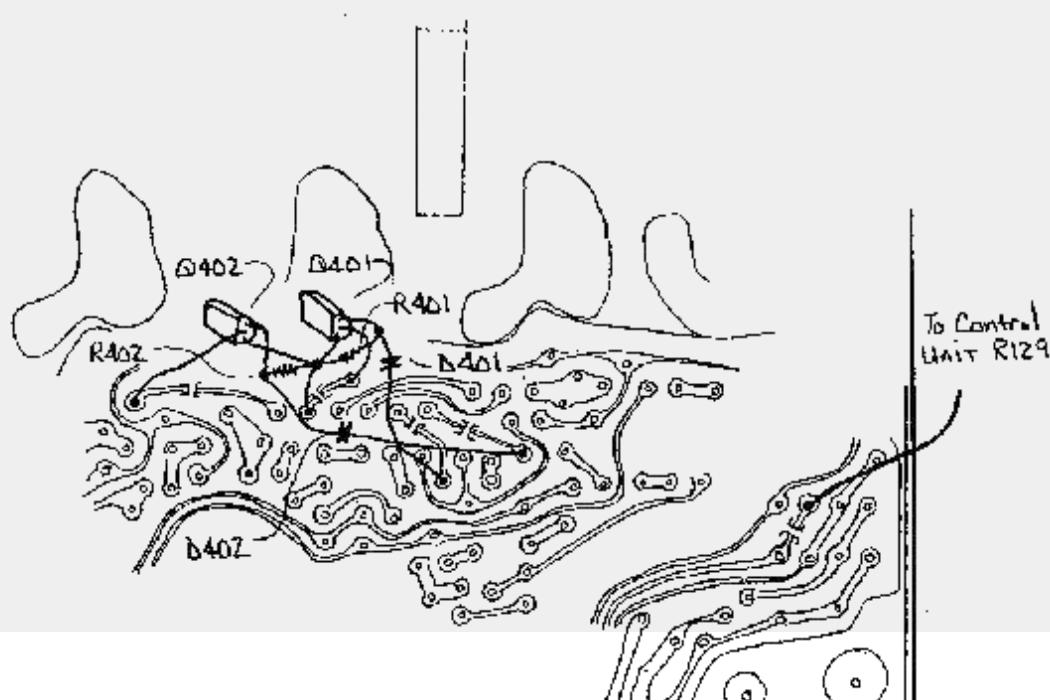
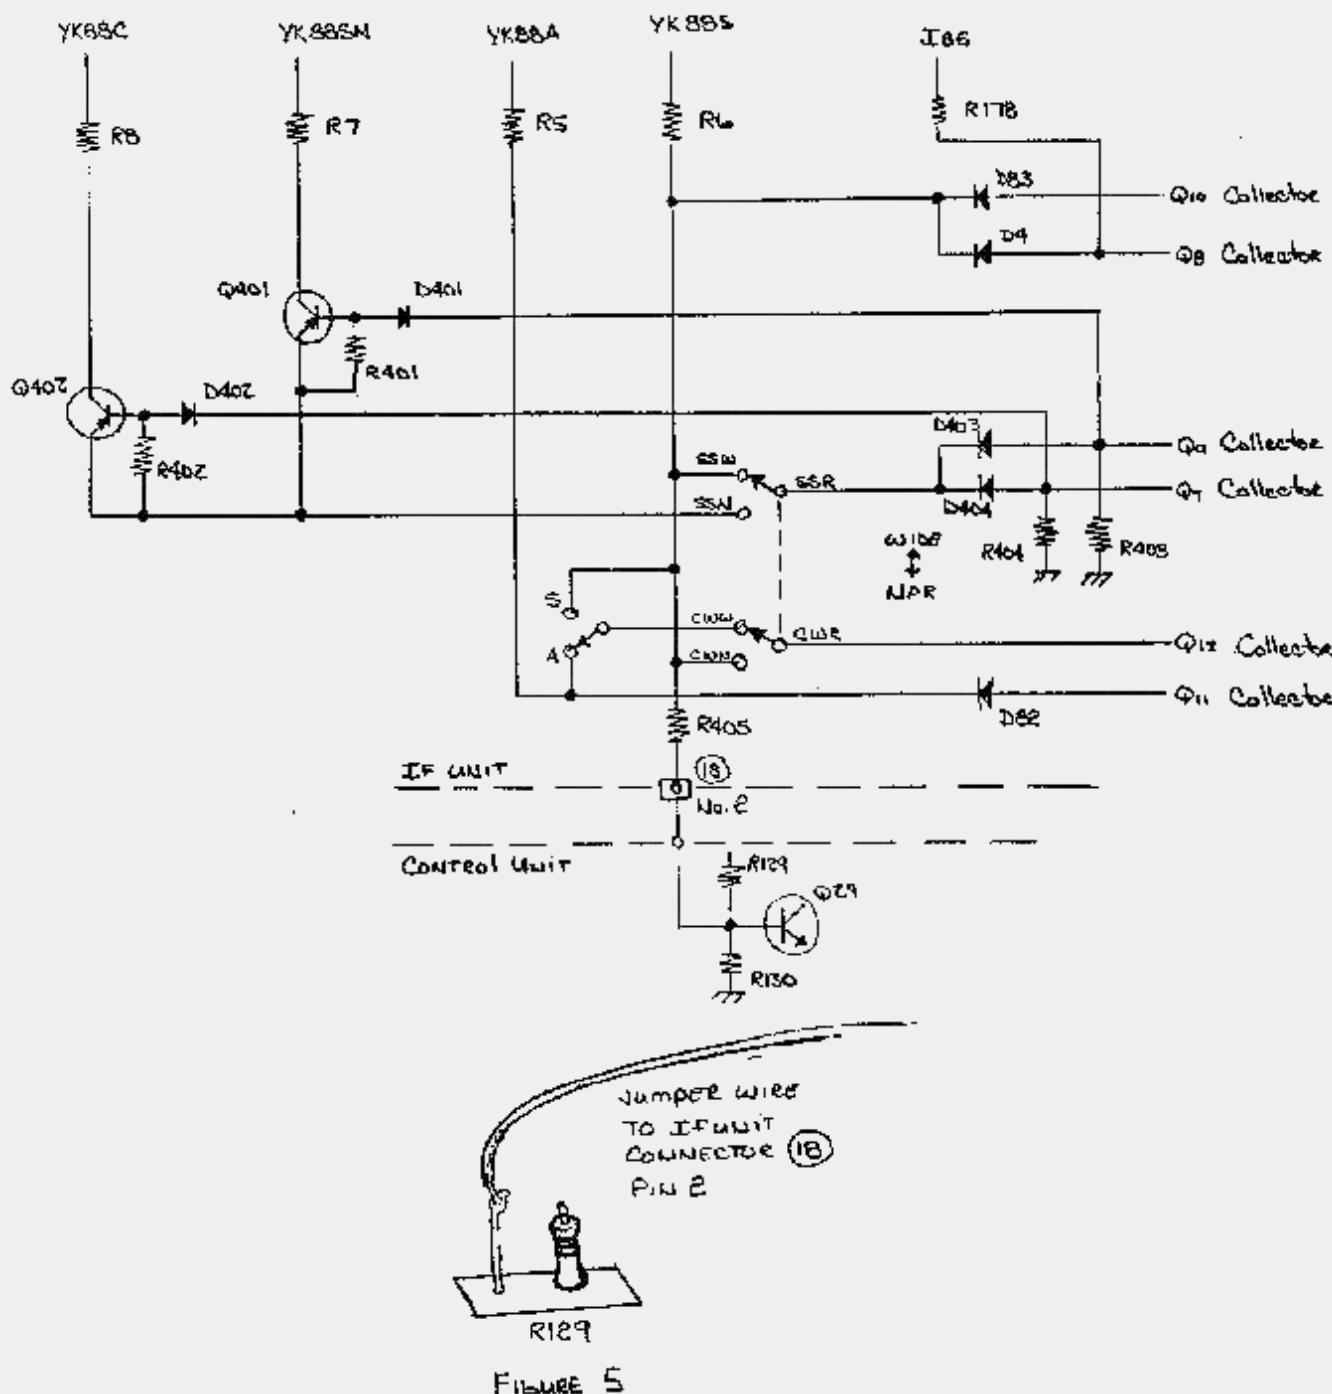

FIGURE 4
Figure 5
14. Solder a jumper wire to the metal lead of resistor R129, as shown in figure 5. Connect the other end to IF units connector 18 pin 2 from the foil side of the board as shown in figure 4. The wire may be conveniently routed between the circuit board and the chassis.